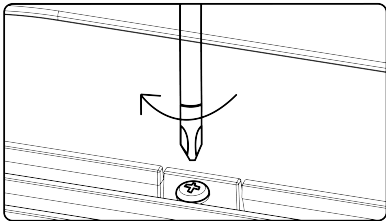

Fig.4.5.5
- (4) Tighten 4 screws at each corner of panel respectively, fix the panel on the body firmly
- (5) After tightening screws, reinstall the air inlet grille.
- (6) Fit the two screws in the Panel Accessory, please refer to Fig. 4.5.5